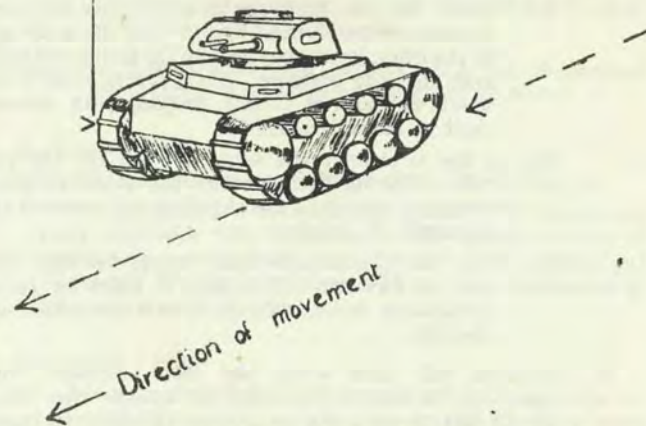

Fig. 6. Correct aim diagonally crossing tank.
- iii. When moving diagonally across the front, aim at the front edge (*see* Fig. 6).